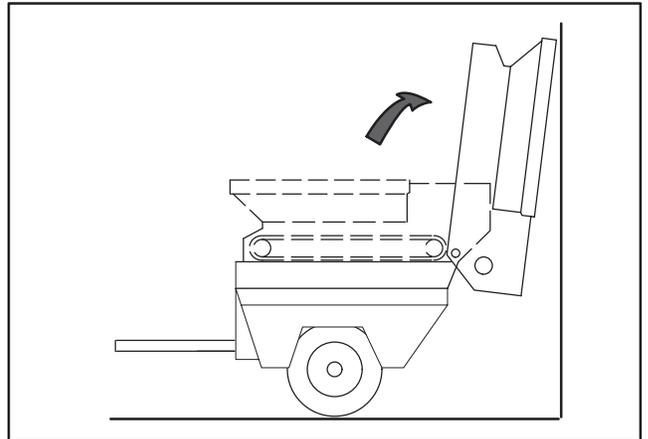

Figure 26
5. Pivot hopper rearward and lean against wall, ladder, etc. Do not allow hopper to rest against rear of machine as damage may result to brush or hydraulic couplers (Fig. 26).
IMPORTANT: Make sure hopper is pivoted beyond center and/or secured to wall or post to prevent it from accidentally falling on work area (Fig. 26).